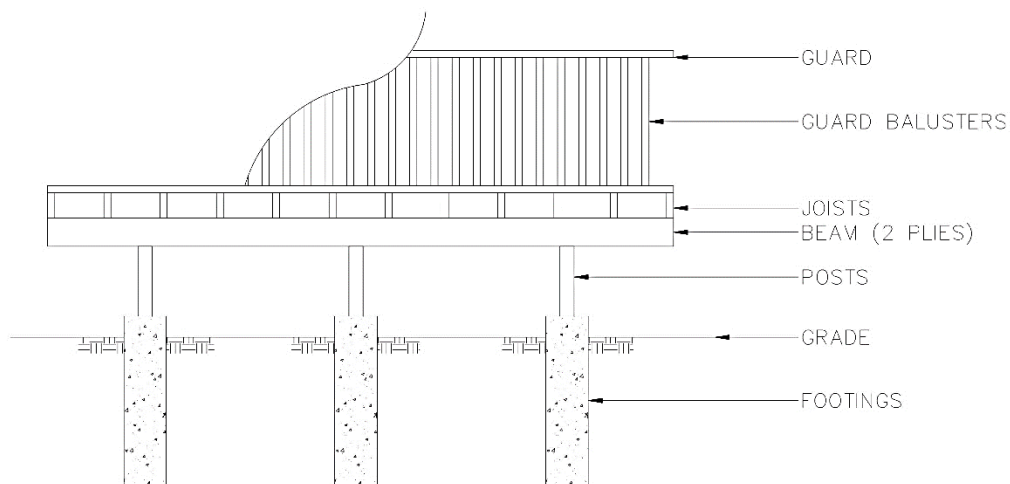

Figure 1:
1. Figures 1, 2 and 3 illustrate common features of decks. Some of the most relevant and applicable code requirements for such features, as put forth by the IBC, are detailed in the proceeding sections.